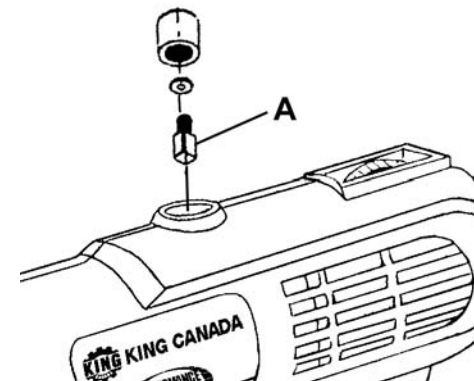

Figure 6
### Carbon Brushes (Fig.6)
The brushes (A) Fig.6 and commutator in your tool have been engineered for many hours of dependable service. To maintain peak efficiency of the motor, we recommend that the brushes be inspected after 50-60 hours of use.